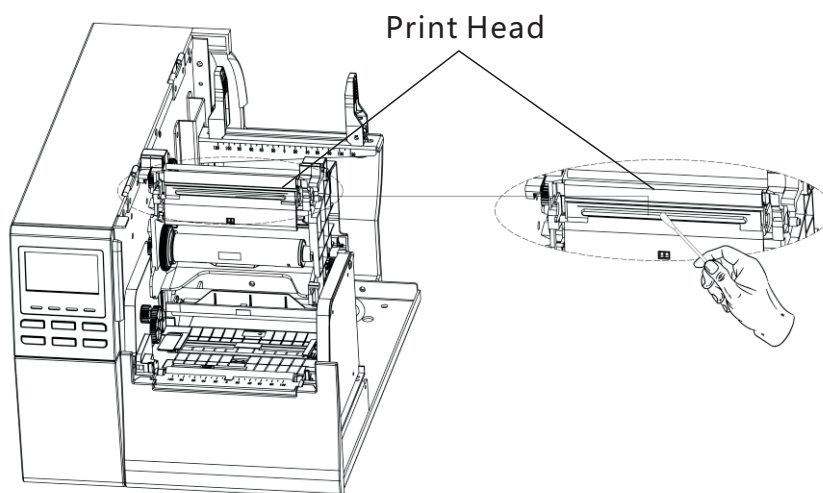

Figure 20
3. As shown in Figure 20, clean the print head with a cotton swab moistened with absolute alcohol or a soft cotton cloth.